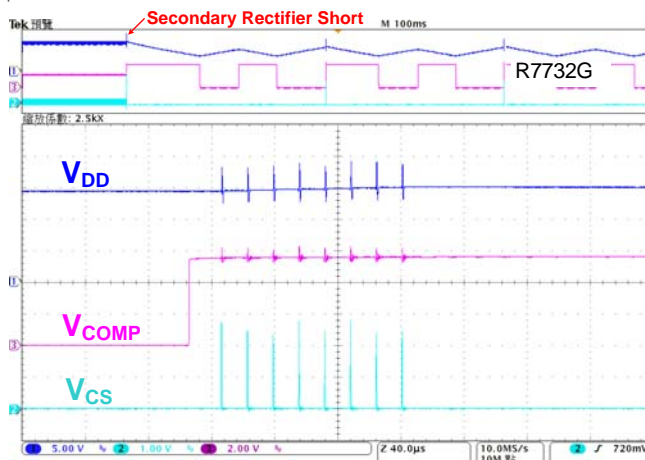

Figure 7. Secondary Rectifier Short Protection
- **Secondary Rectifier Short Protection:** As shown in Figure 7. The current spike during secondary rectifier short test is extremely high because of the saturated main transformer. Meanwhile, the transformer acts like a leakage inductance. During high line, the current in power MOSFET is sometimes too high to wait for OLP delay time. To offer better and easier protection design, R7732 shut down the controller after couples of cycles before fuse is blown up.